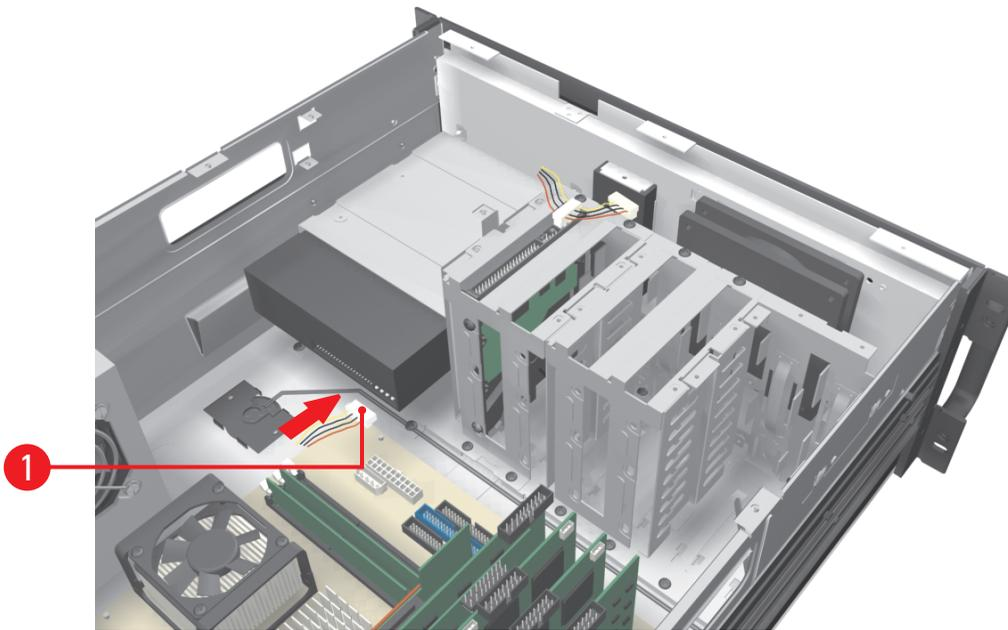

Figure 13. Installing the DVD-RW Power Connector
1. Connect the DVD-RW power cable according to the diagram in Figure 13.